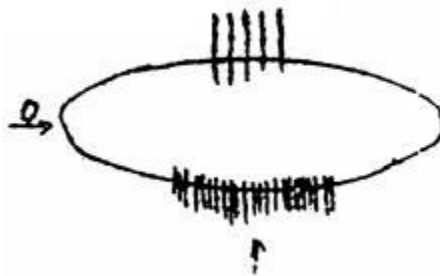
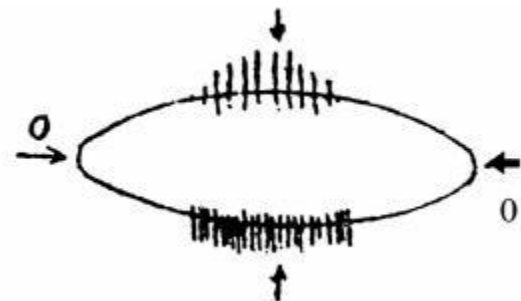

Fig. 9a
Fig. 9b
(5) Tip corona in liquid medium (Fig. 9a), waveform characteristics: discharge occurs in two and a half cycles, symmetrically distributed in two voltage peaks. Each group of discharge is equal interval, but a group of larger amplitude discharge appears first, and increases with the increase of test voltage, not necessarily equal amplitude: a group of small amplitude discharge amplitude is equal, and does not change with voltage (as shown in Fig. 9b). Cause: the tip or edge discharge in insulating liquid, if a group of large discharge occurs in positive half cycle, the tip is at high voltage; if it appears in negative half cycle, the tip is at ground potential.